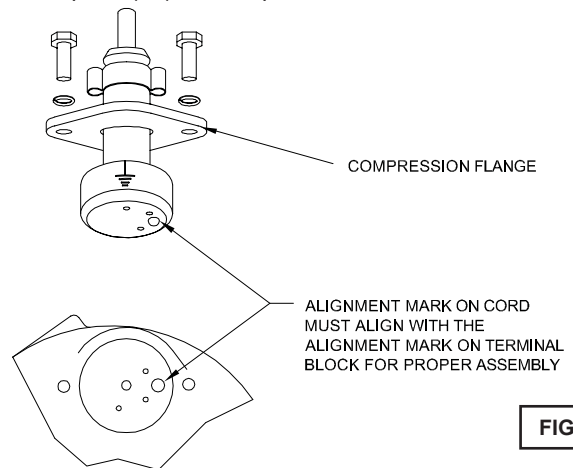

FIGURE 6
Power/Sensor Cord - Refill the cooling oil as outlined in paragraph F-1.4. Make wire connections as outlined in paragraph F-3.3. Insert female end of cable plug into housing bore aligning timing mark with hole in terminal block (55) (56) (see Figure 6). Compress cord plug with compression flange (52a)(53a) by tightening cap screws (6) into the motor housing (2). Torque to 132 in-lbs.